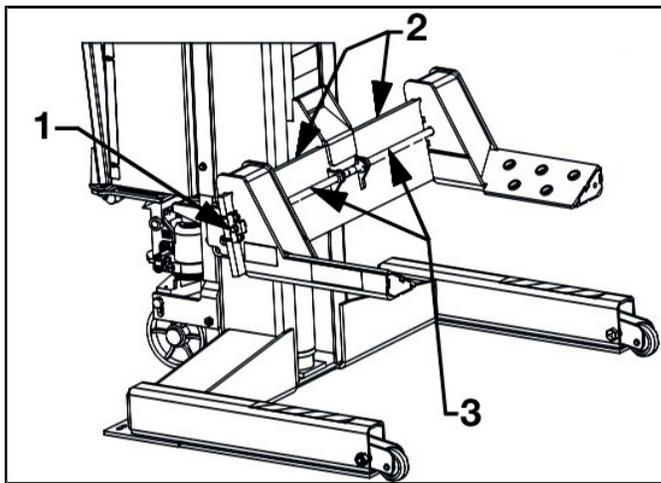

Fig. 23: Lubricating carriage width adjustment mechanism
The carriage width adjustment mechanism should be lubricated if the lift arms do not move inward and outward smoothly. Perform the following steps to lubricate the mechanism (Fig. 23).
2. Apply a thin film of grease to the surfaces shown in Fig. 23 where the lift arms slide.